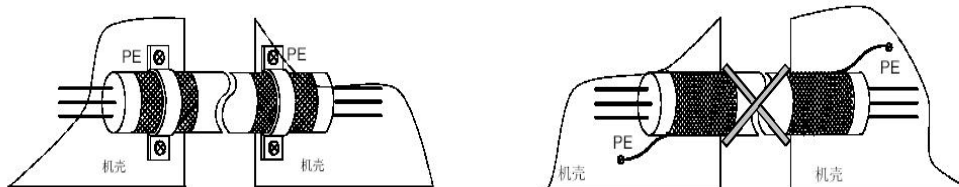

Figure A-4: Correct shield grounding method Figure A-5: Incorrect shield grounding method
Control cables should generally be shielded cables, and the shielded wire mesh must be connected to the metal chassis using a 360° loop connection through cable clamps at both ends, as shown in Figure A-4. The shield grounding method in Figure A-5 is incorrect.
- (1) The inverter should be installed in the cabinet. The inverter base plate and the housings of peripherals such as the input filter should be fixed to the back panel of the control cabinet to ensure good electrical contact with the back panel. The distance between the inverter and the filter should be as short as possible, less than 15cm, which can minimize the high-frequency impedance of the ground wire between the inverter and the input filter and reduce high-frequency noise.
- (2) Install a wide grounding bar at the entrance of the control cabinet (no more than 5 cm away from the exit ). The shielding layers of all cables entering and leaving the cabinet are fixed to the grounding bar. The connection method uses a 360° loop connection to ensure good electrical contact.
- (3) The motor cable must be shielded, preferably with a double shield consisting of a spiral metal tape and a metal mesh. At the inverter end, the motor cable shield must be secured to the cabinet backplane using a metal cable clamp using a 360° loop (see Figure A.4). Two mounting locations should be used: one as close to the inverter as possible, preferably less than 15 cm away; the other to the grounding bar. At the motor end, the motor cable shield should be grounded to the motor metal casing using a 360° loop when passing through the motor terminal box. If this is difficult, the shields can be twisted into a braid, flattened, and connected to the motor ground terminal. The flattened width should be greater than one-fifth the braid length. The motor cable core wire and its PE pigtail lead should be as short as possible, preferably less than 5 cm.
- (4) Shielded cables must be used for terminal control cables. The shield must be connected to the grounding bus at the cabinet entrance, using metal cable clamps for a 360° loop connection. At the inverter end, the shield can be secured to the inverter's metal casing using metal cable clamps. If this